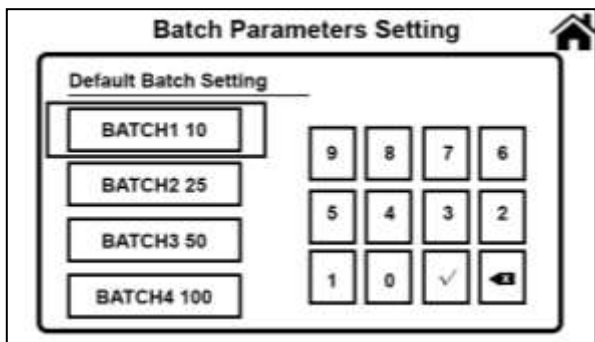
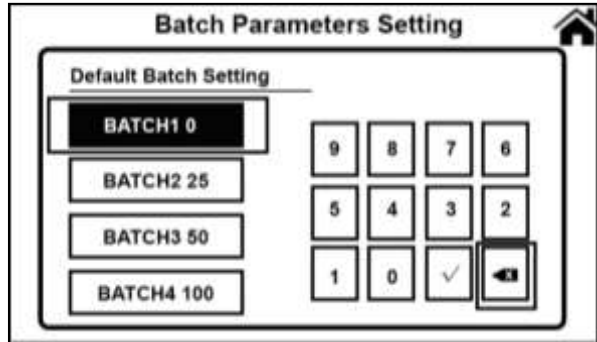

Figure 34
Figure 35
- For example, change "BATCH1 10" to "155". First touch the screen to select "BATCH1 10" as in Figure 34, and then click "✕" to clear the original number, as in Figure 35.